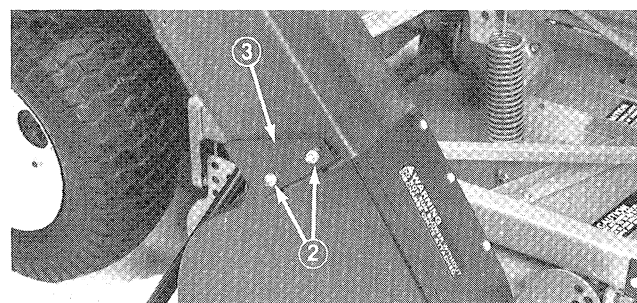

Figure 10
2. Slide chute over blower opening and onto mounting studs (Fig. 10).
3. Lower hopper hood and align chute with hood snout. Secure chute in position with locknuts and brackets. Wide end of brackets to be positioned toward rear (Fig. 10).